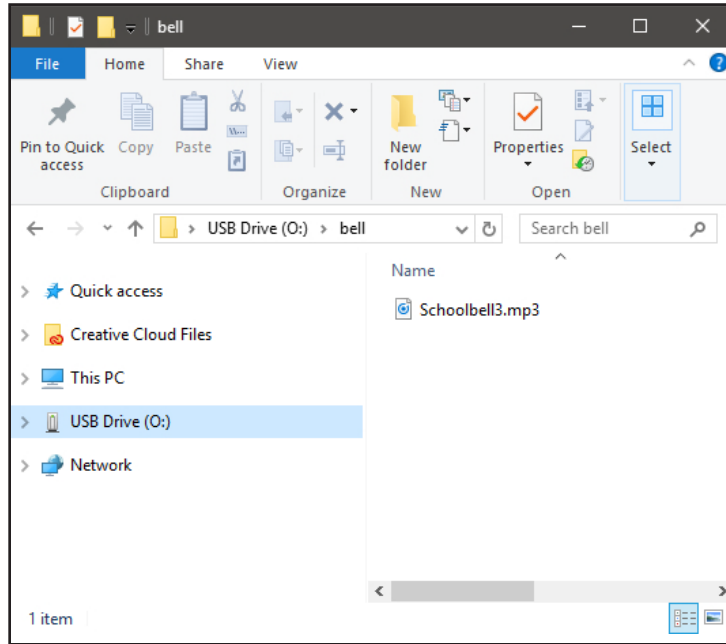

Fig 2.2
Step 3: Open the folder to change, in our example the “bell” folder, and you should get a window that looks like figure 2.2.